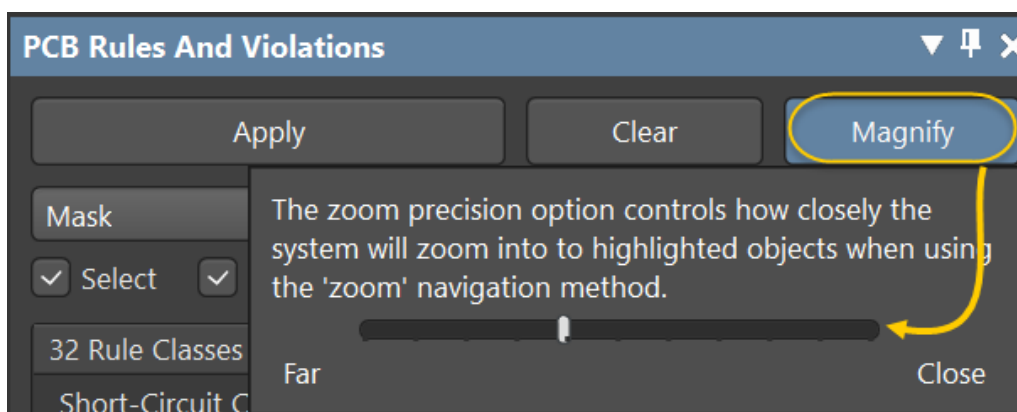

Figure 10. Adjust zoom level
23. Your zoom can be adjusted by clicking on the **Magnify** button and adjusting the slider to your zoom preference as shown in Figure 10.